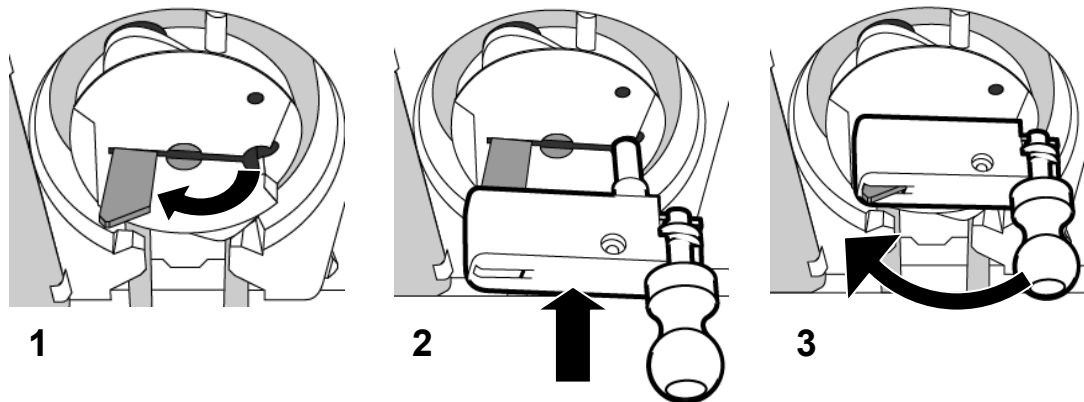

Figure 49 – Inserting the Blood Pump Crank
6. Open the pump door and flip the rotor latch outward (see Figure 49 #1).
7. Align the slot and the spindle on the crank handle with the rotor latch and hole as shown in Figure 49 #2 above.
8. Slide the crank handle in as far as it will go. The crank latch will protrude slightly from the crank handle (see Figure 49 #3).
2. Open the pump door and flip the rotor latch outward (see Figure 49 #1).
3. Align the slot and the spindle on the crank handle with the rotor latch and hole as shown in Figure 49 #2 above.
4. Slide the crank handle in as far as it will go. The crank latch will protrude slightly from the crank handle (see Figure 49 #3).